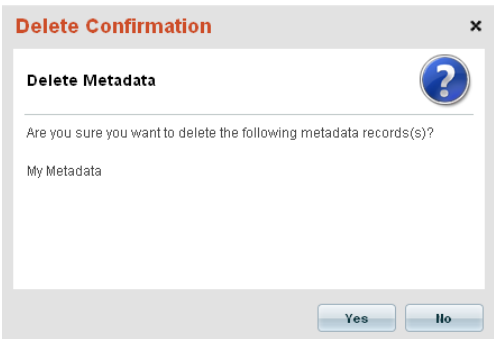

FIG. 200 Delete Confirmation dialog - Delete Metadata
3. The program will prompt you to verify this action (FIG. 200):